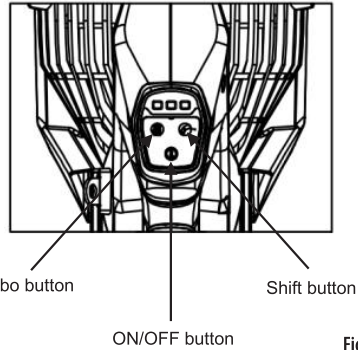

Fig. 7
1. Press the power button "ⓘ" on control panel (Fig 7). Left button is the turbo button for the maximum air speed the right is the shift button for three level speed adjust.